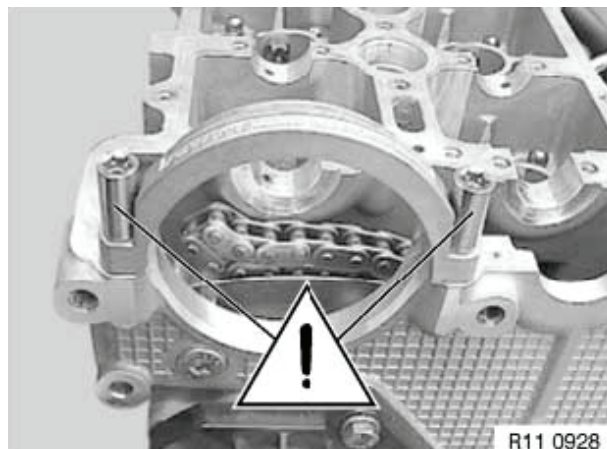
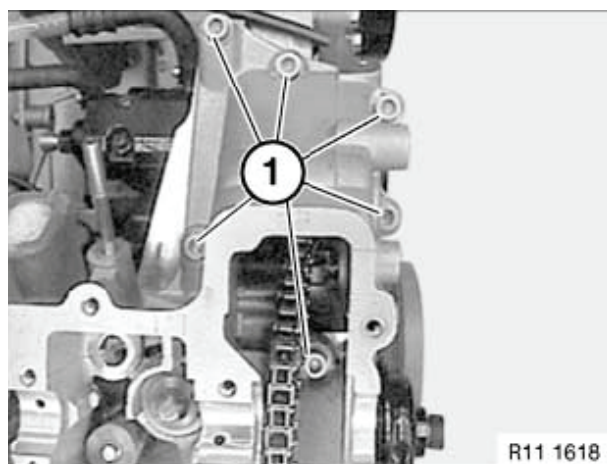

Figure 5-15
Figure 5-16
20. **NOTICE:** NEVER remove bolts retaining loop casting (**Figure 5-15**). Remove timing case cover bolts (**Figure 5-16, (1)**).